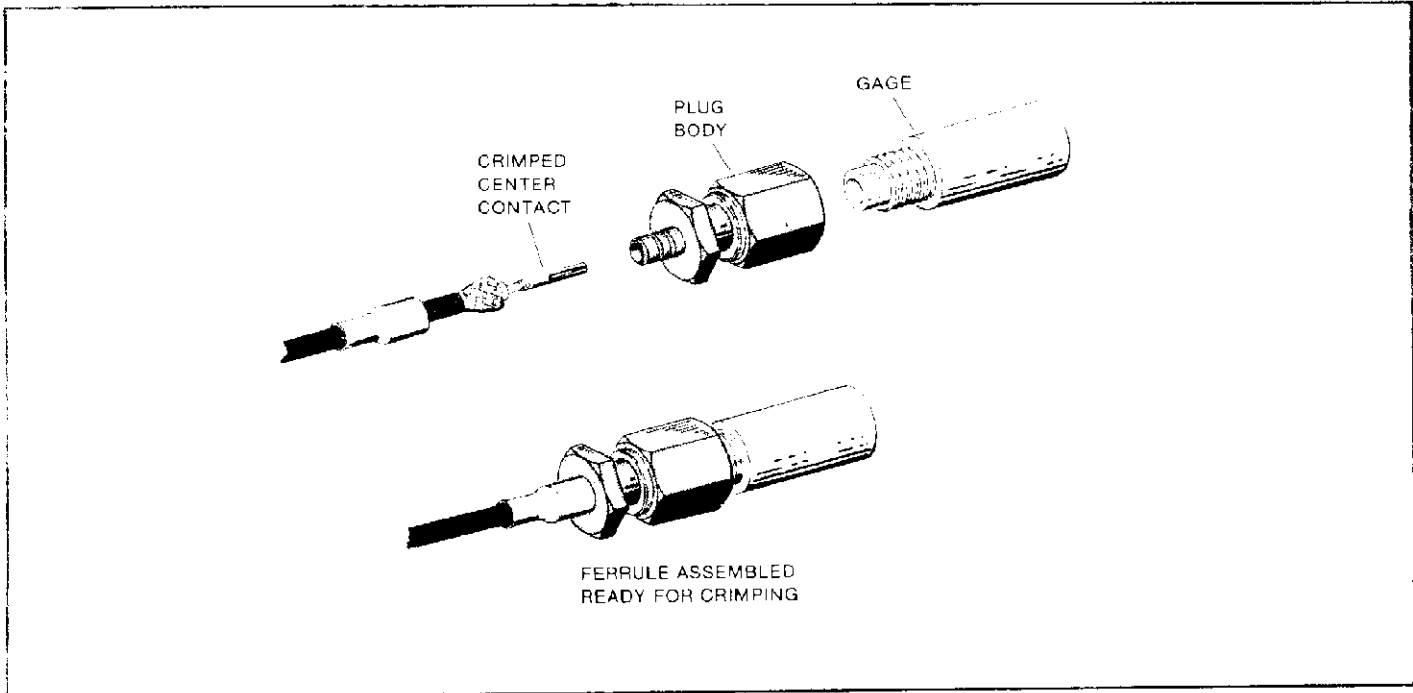

Figure 4
3. CENTER CONTACT LOCATING GAGE FOR USE WITH RG 178, 196 CABLES (Figure 4)